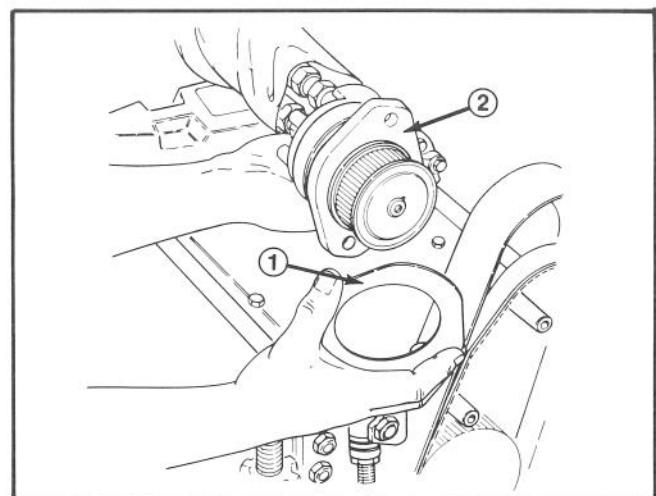

Figure 11
- Discard shipping cover and install the drive plate shield onto the reel drive motor flange (Fig. 11). Be sure the widest portion of the shield is at the top.